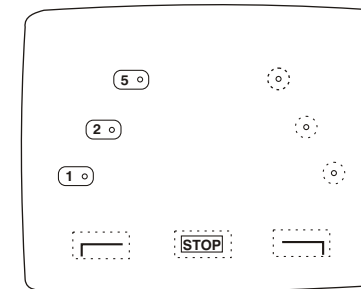

FIGURE 4
1. Clean monitor screen surface of fingerprints. Set the camera into the " DOWN " position. Place distance indicators behind the vehicle at (3) feet, (5) feet and (9) feet along the width of the vehicle. These distances are measured from the rear bumper. (Refer to fig. 4).
2. Attach the markers to the monitor screen over the images of the distance indicators. These markers represent a distance of (3) feet, (6) feet and (9) feet from the back of the vehicle. (See Fig. 4).
4. The monitor screen is now " calibrated " for distances behind the vehicle of (3) feet, (6) feet and (9) feet.